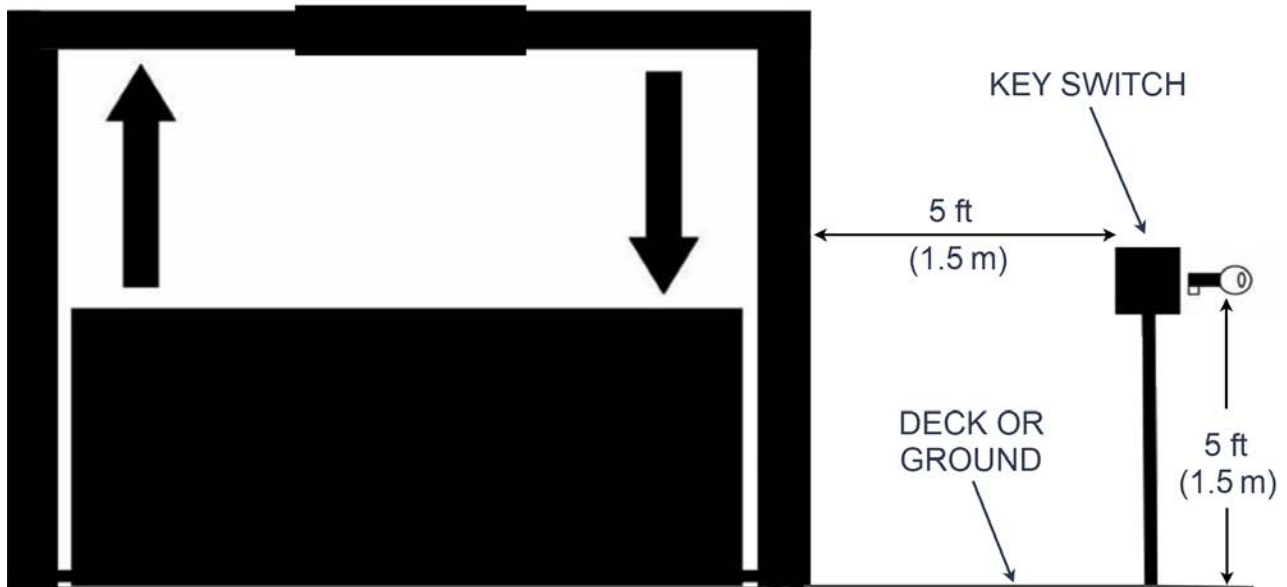

FIGURE 2: POSITION OF THE KEY SWITCH
- The key switch must be permanently installed and located 5 ft (1.5 m) away from the spa and 5 ft (1.5 m) above the deck or ground level, see Figure 2.